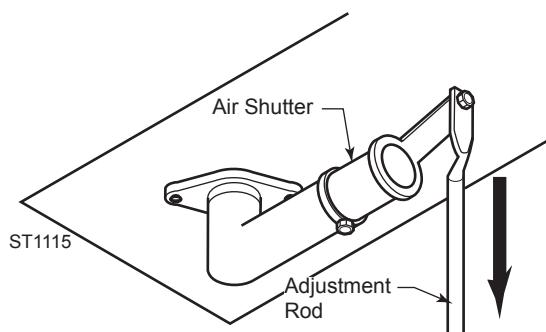

Figure 47 -
- To decrease air mixture, pull down the adjustment rod located beneath the stove. This closes the shutter. Flames will be more yellow. *Figure 47*